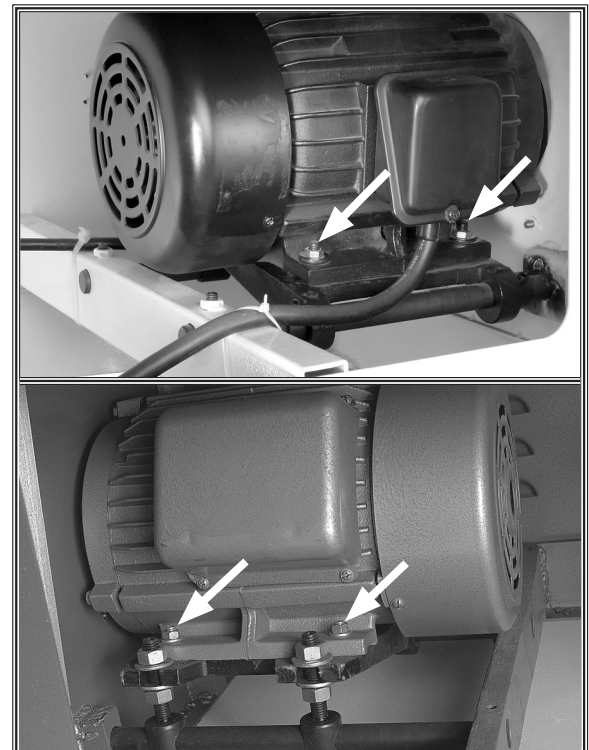

Figure 36. Motor mount fasteners.
3. Using a 12mm wrench, loosen the motor mount fasteners shown in **Figure 36** just enough to allow the motor to be repositioned.